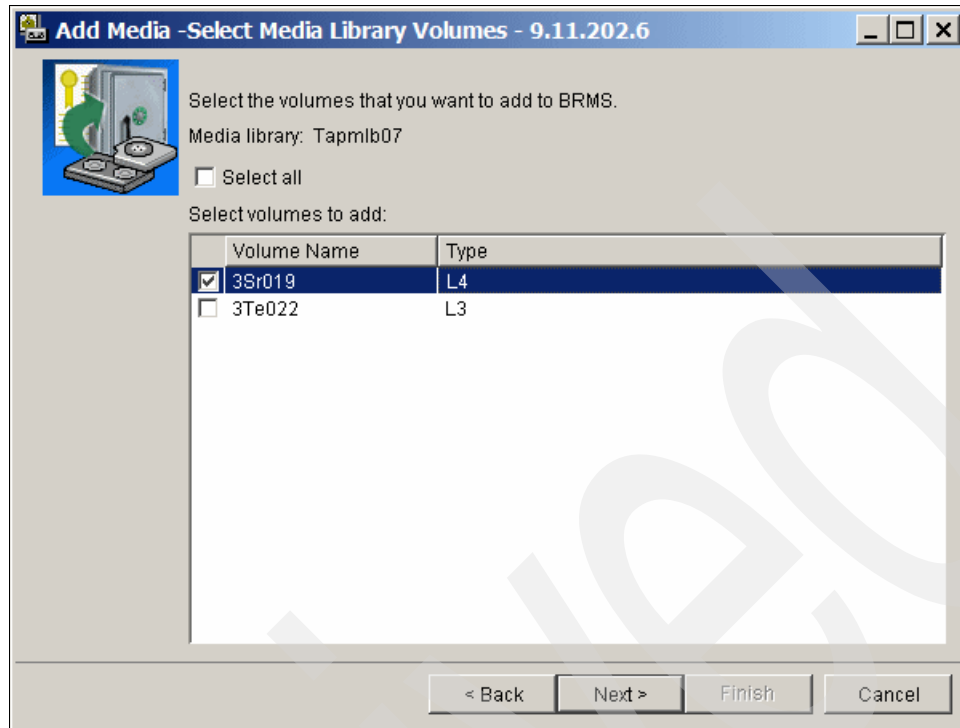

Figure 6-8 Select media to add
- Next you are prompted to select the cartridges to add to the media pool. In our example we select one cartridge, as shown in Figure 6-8. Click **Next**.